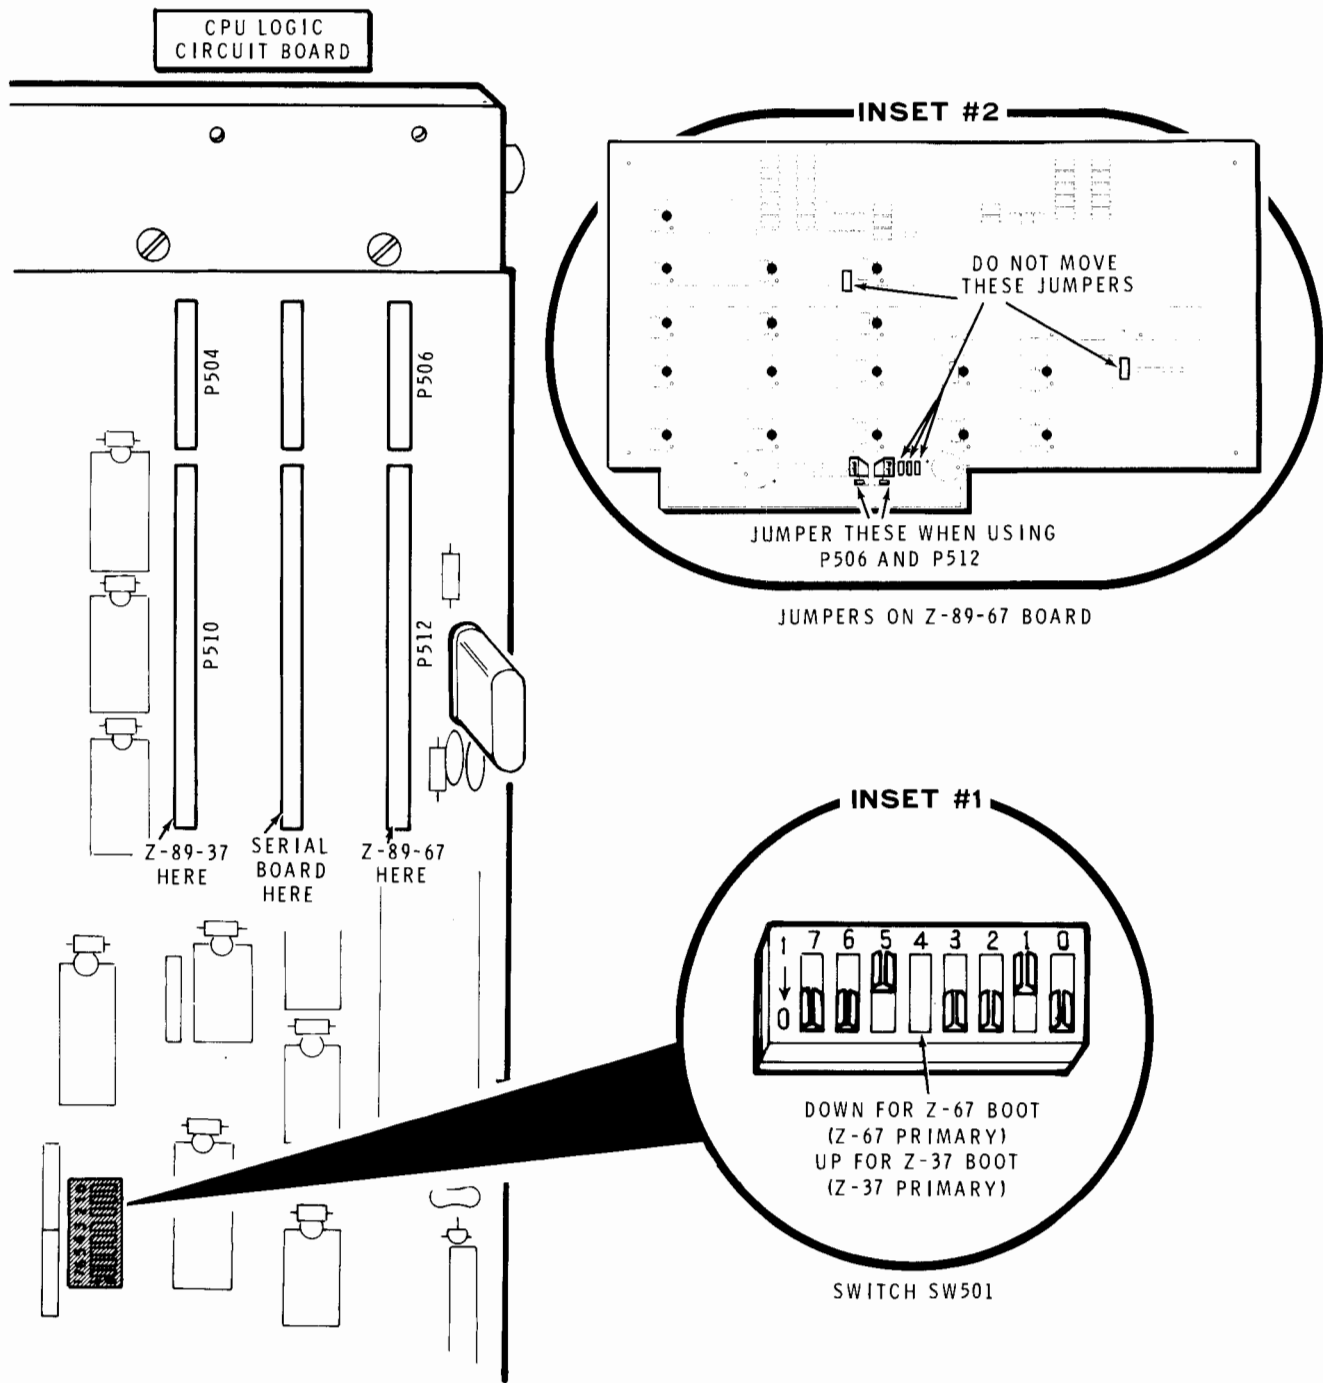

Figure 6-5
1. A **Z-89-37 Double-Density Controller**, you must install your Interface Board as shown in Figure 6-5 on Page 6-8. Switch SW501 on the CPU Board must be set as shown in inset drawing #1. The jumpers on the Interface Board must be set as shown in inset drawing #2.